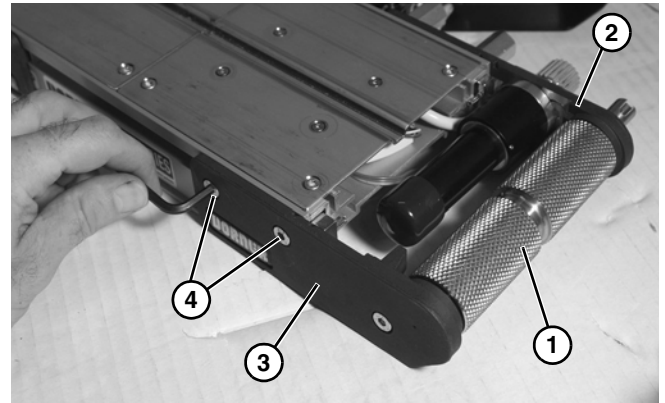

**Figure 40**
1. With opposite head plate installed, position the idler spindle (**Figure 40, item 1**) through the loop of the belt, into the opposite head plate.
2. Place the head plate (**Figure 40, item 2**) and attach the head plate to the conveyor frame with the two (2) screws removed and hand tighten.